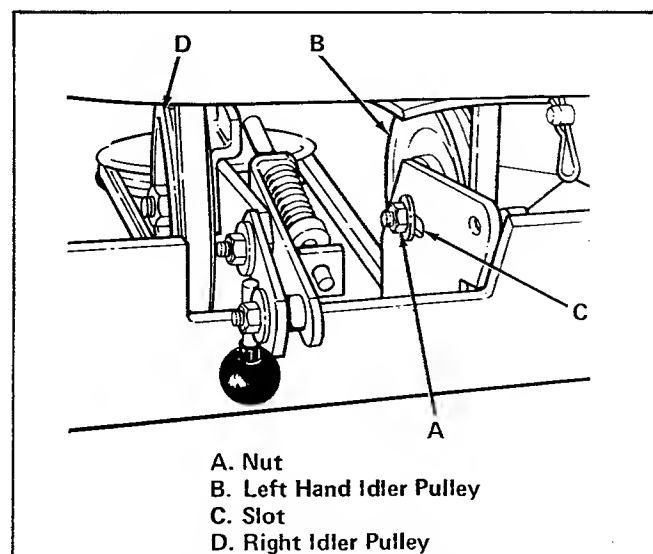

Figure 28. Idler Pulley Adjustment
2. Loosen nut (item A, figure 28) so left hand idler pulley (item B) can be moved forward or rearward in slot (item C).